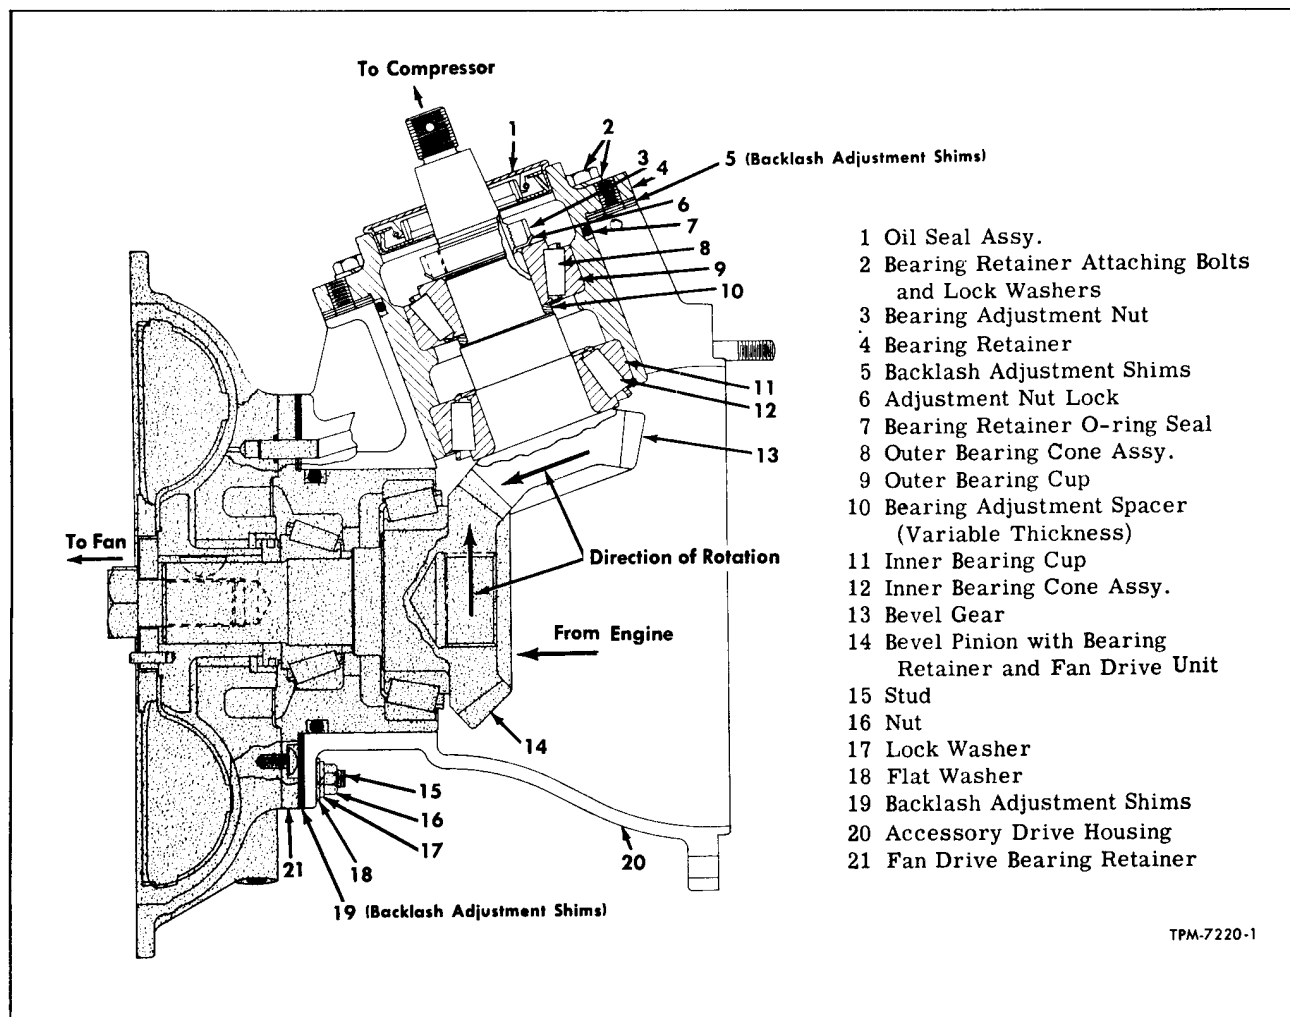
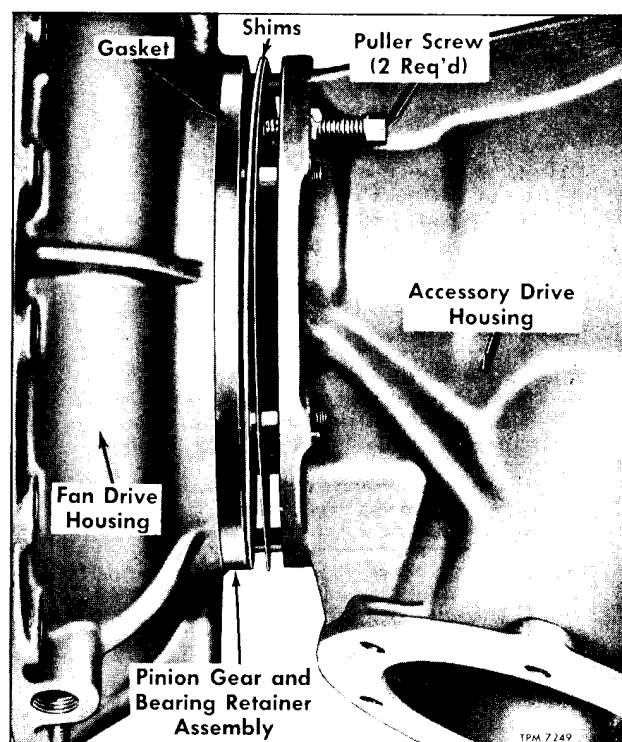
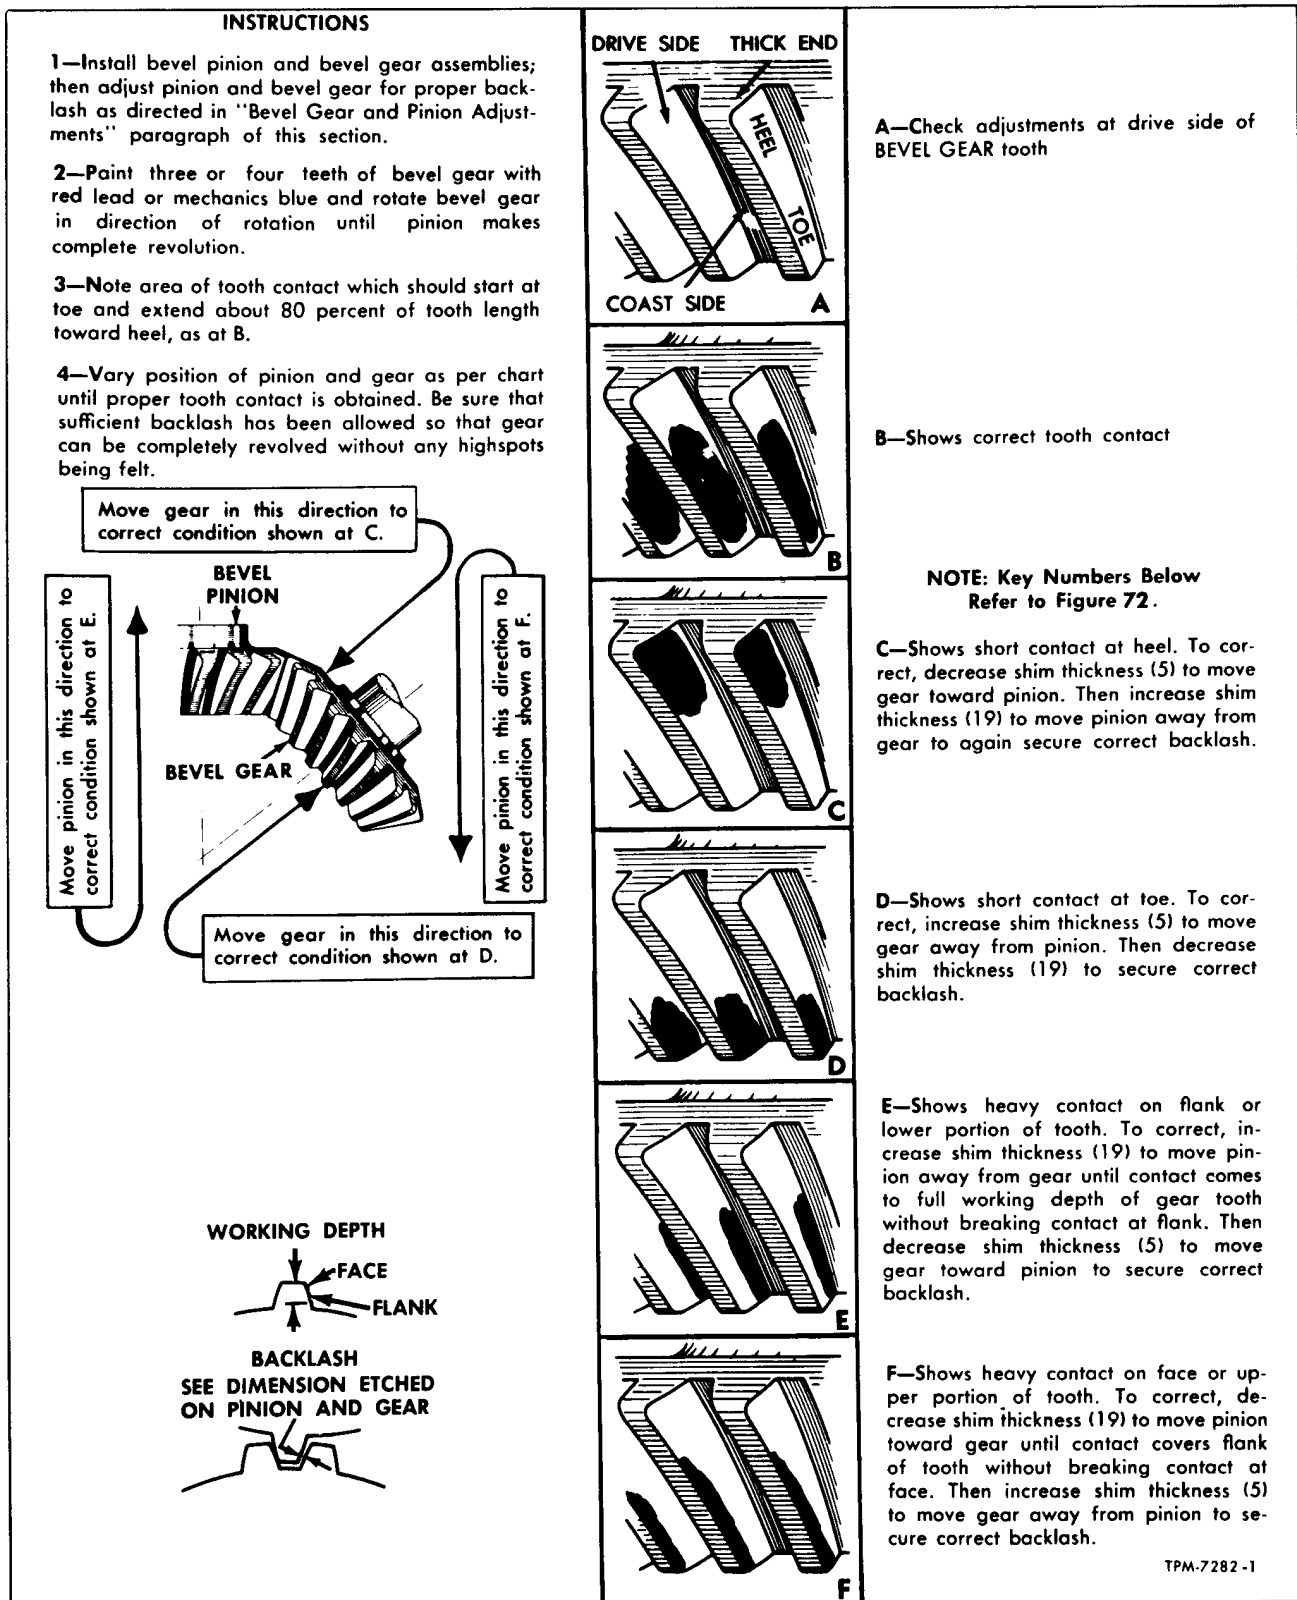

Figure 72—Compressor Accessory Drive
Figure 75—Shims Installed Between Drive Housing and Pinion Gear Retainer
Figure 77—Accessory Drive Bevel Gear and Pinion Tooth Contact Chart
The accessory drive, as used to transfer power of coach engine to operate the air conditioning refrigerant compressor, consists of a bevel drive gear and pinion enclosed within engine fan drive housing, as shown in figure 72.
Referring to figure 72, engine torque is transferred from fan drive pinion (14) to the bevel gear (13) at a ratio of 1.59 to 1.
Bevel gear (13, fig. 72) is supported in bearing retainer (4, fig. 72) on two taper roller bearings which are lubricated by engine oil pressure through internal drilled passages. Bearing retainers (4 and 21, fig. 72) of both gears can be .001" press fit or .001" loose fit in opening of accessory drive housing (20, fig. 72).
is accomplished by removing or adding shims (5 and 19, fig. 72) which relocate position of one gear in relation to the other. Instructions for making adjustments are explained later under "Bevel Gear and Pinion Adjustments."
NOTE: Key numbers in text refer to figure 72.
NOTE: Key numbers in text refer to figure 72. Coat all parts in clean SAE 30 engine lubricant when assembling unit.
Key numbers in text refer to figure 72.
Shims (5 and 19) are available in three thicknesses (0.003", 0.010", and 0.031") for adjustment of backlash and tooth contact of bevel pinion and bevel gear. Figure 75 shows shims installed between accessory drive housing and pinion gear retainer. Whenever assembling accessory drive unit or installing new pinion and bevel gear, or in event it should become necessary to readjust gear backlash because of normal wear, the following operations must be accomplished to properly adjust the pinion and bevel gear backlash.
4. Turn bevel pinion in direction of rotation (fig. 72) and observe tooth contact impression on drive side of gear teeth. Contact should start at toe of tooth (view B, fig. 77) and extend back about 80% of tooth length toward heel. Contact should be distributed evenly over flank and face of tooth, indicating center of contact on pitch line. Refer to views "A" and "B," figure 77.
a. If tooth contact is too far out on tooth toward heel (view C, fig. 77), decrease thickness of shim pack (5) between bevel gear bearing retainer (4) and accessory drive housing (20), moving bevel gear toward pinion. Restore backlash by increasing shim thickness (19) between pinion bearing retainer (21) and accessory drive housing (20). Figure 75 shows shims (19) installed between pinion gear bearing retainer and accessory drive housing. This view also shows puller screws used for removing bearing retainer from accessory drive housing.
b. If tooth contact extends from toe appreciably less than 80% of tooth contact (view D, fig. 77) move bevel gear away from pinion by increasing shim thickness (5) between bevel gear bearing retainer and accessory drive housing. Restore backlash by decreasing shim thickness (19) between pinion bearing retainer and accessory drive housing.
c. If tooth contact is low on flank of tooth (view E, fig. 77), move pinion away from bevel gear by increasing shim thickness (19) between pinion bearing retainer and accessory drive housing. Restore backlash by decreasing shim thickness between bevel gear bearing retainer and accessory drive housing.
d. If contact is high on face of tooth (view F, fig. 77), move pinion toward bevel gear by decreasing shim thickness (19) between pinion bearing retainer and accessory drive housing. Restore backlash by increasing shim thickness (5) between bevel gear bearing retainer and accessory drive housing.
5. When pinion and bevel gear adjustments have been completed, make certain that all retainer attaching bolts (2) and nuts (16) are securely tightened. Recheck adjustment. Remove all red lead from gears.